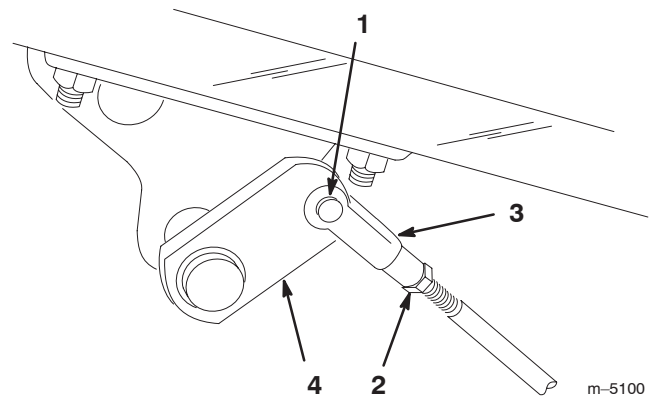

Figure 53
2. If the brakes do not lock equally, disconnect the brake rods by removing the cotter pin and clevis pin (Fig. 53).
3. Loosen the jam nut and adjust the clevis accordingly (Fig. 53).
4. Assemble the clevis to the brake shaft (Fig. 53).